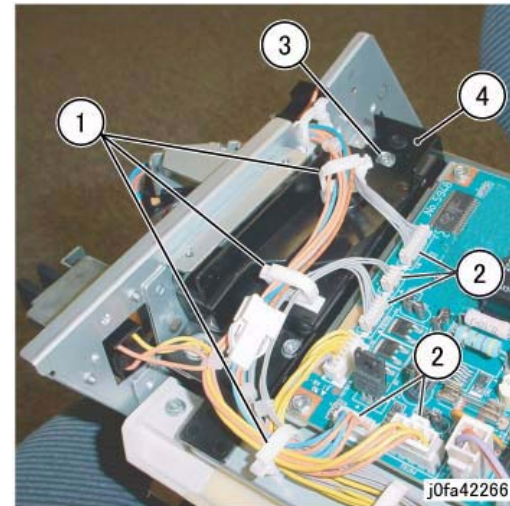

Figure 1 Removing the Connector Bracket
7. Remove the Connector Bracket (Figure 1):